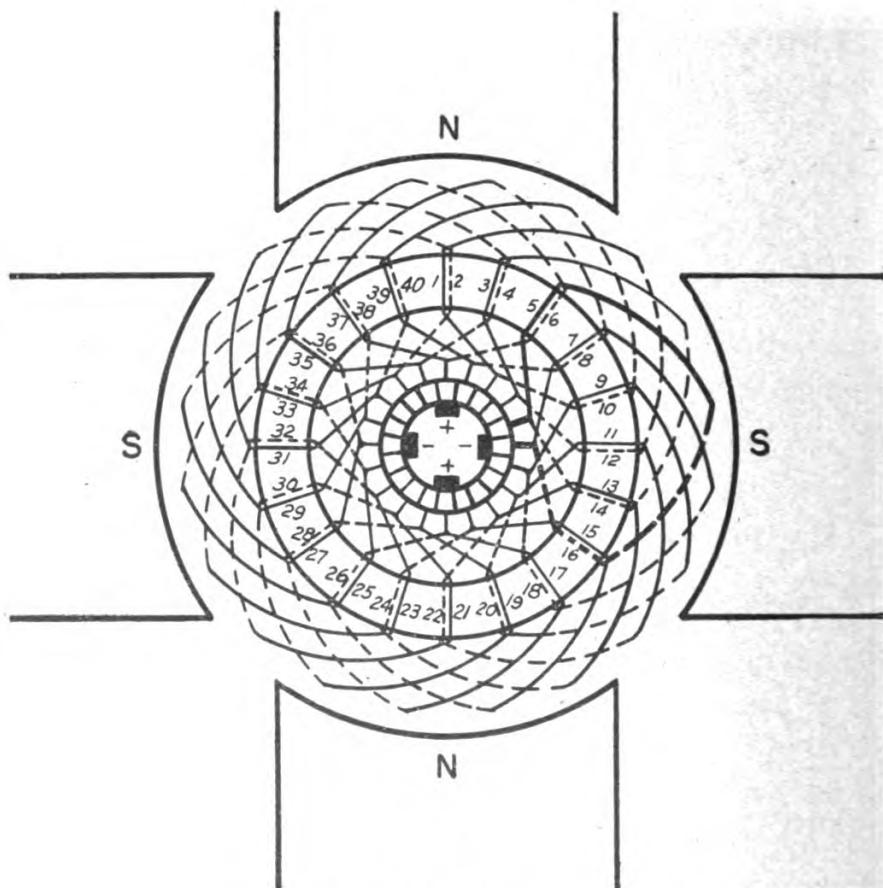
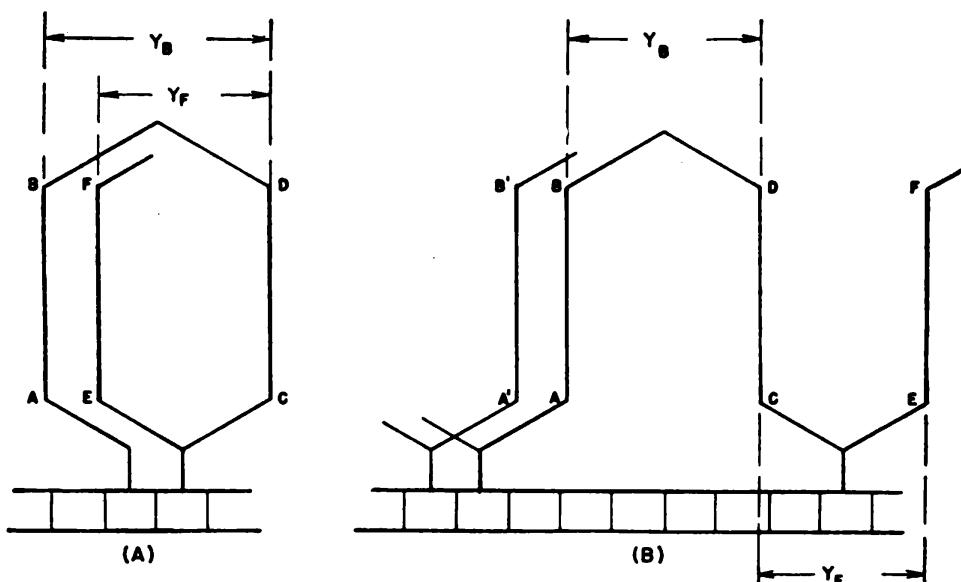

Figure 91.—4-pole, lap-wound armature.
Figure 93.—Lap and wave windings.
6. Draw the wiring diagram—(See figures 91 and 92).
In the lap-wound armature, in figures 91 and 92, you connected a coil side under one pole directly to a coil side occupying a corresponding position under the next pole. Then you connected this second coil side back to a coil side under the original pole, but in a different slot. It would not make any difference in the direction and magnitude of the induced emf in the winding if the connection, instead of returning to the original pole, advanced to the next pole.
In figure 93, you see the difference between lap and wave-wound armatures. In figure 93 (A) you have a LAP-wOUND ARMATURE similar to the one used in the preceding problem and shown in figures 91 and 92. In figure 93 (B) you have a WAVE-WOUND ARMATURE. The windings pass all the north and south poles